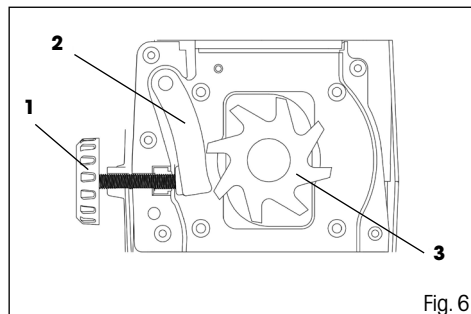

Fig. 6
- ✿ For effective operation, it is necessary to set the distance between the counter-blade (Fig. 6, point 2) and the cutting roller (Fig. 6, point 3). The gap between the cutting roller and the counter-blade should be as small as possible.
- ✿ To pull the counter-blade towards the cutting roller, slowly turn the setting screw (Fig. 6, point 1) clockwise. Keep turning the screw until fine aluminium fillings start falling out of the ejection chute.